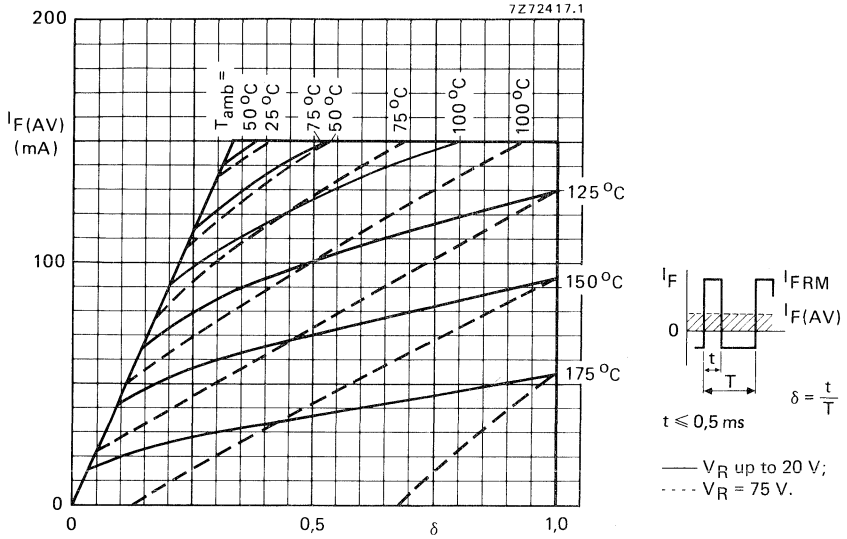
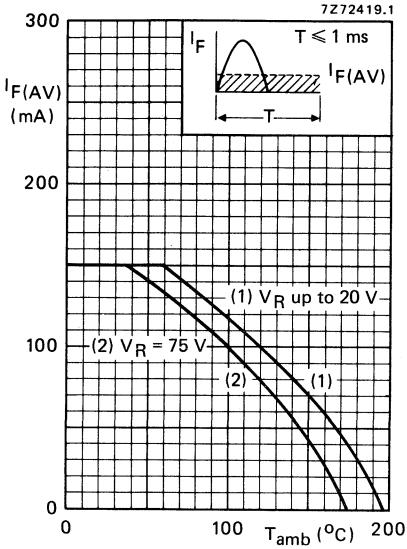

Fig. 4 Maximum permissible average rectified forward current versus duty factor (pulse operated).
Fig. 6 Maximum permissible average rectified forward current versus ambient temperature.
** For sinusoidal operation see Fig. 6. For pulse operation see Figs 4 and 5.